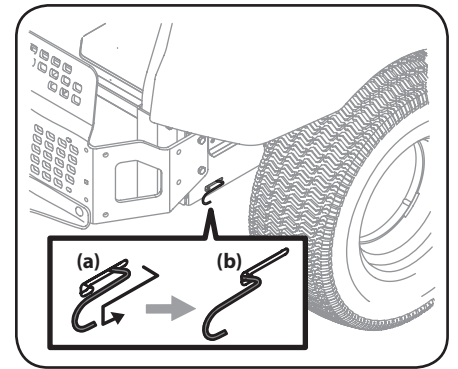

Figure 4-5
1. From the rear of the tractor, just inside the two rear tires, locate the transmission bypass rods. Refer to Figure 4-5.
2. Engage the transmission bypass rods, one on each side of the tractor, to move the tractor manually without starting it. Engage the bypass rods by pulling each one back (a) and hooking it into the slot (b) to lock it into place. See Figure 4-5.
3. Disengage the bypass rods by reversing steps (a) and (b) after moving the tractor. See Figure 4-5.